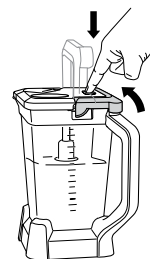
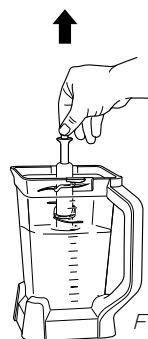

Fig. 1
Fig. 3
- 16b** For thicker mixtures that cannot be emptied through the pour spout, remove the lid and stacked blade assembly before pouring. To remove the lid, press the LID RELEASE button and lift the handle (**Fig. 1**). To remove the blade assembly, carefully grasp it by the top of the shaft (**Fig. 2**). The pitcher can then be emptied (**Fig. 3**).